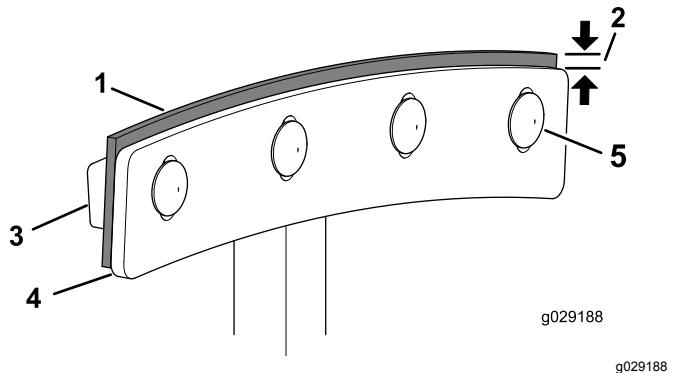

Figure 70
4. Loosen the carriage bolts and flanged locknuts that secure the paddle blade and wiper to the paddle (Figure 70).